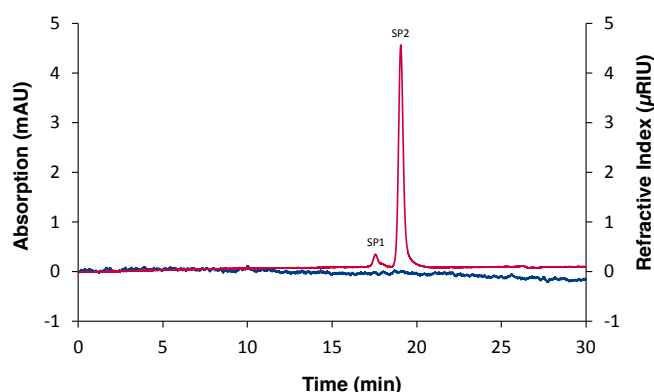

Fig. 1 Chromatogram of a 20 µL blank injection using column coupling. Blue: diode array detector (DAD) at 230 nm; red trace: RID.
Chromatography (GPC/SEC), system peaks typically appear at the end of the chromatogram, indicating the transition from size-based (entropy-driven) to interaction-based (enthalpy-driven) separation [3]. Universal detectors, such as the refractive index (RI) detector, make these effects clearly visible even when pure mobile phase is injected (**Fig. 1**) [3].